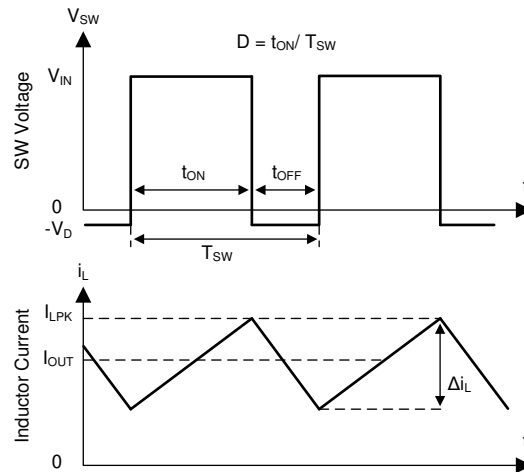

Figure 10. SW Node and Inductor Current Waveforms in Continuous Conduction Mode
The following operation description of the LM76002-Q1/LM76003-Q1 refers to the Functional Block Diagram and to the waveforms in Figure 10. The LM76002-Q1/LM76003-Q1 supplies a regulated output voltage by turning on the internal high side (HS) and low side (LS) NMOS switches with varying duty cycle (D). During high-side switch on-time t_{ON} , the SW pin voltage V_{SW} swings up to approximately V_{IN} , and the inductor current i_L increase with linear slope. The HS switch is off by the control logic. During the HS switch off-time, t_{OFF} , the LS switch is turned on. Inductor current discharges through the LS switch, which forces the V_{SW} to swing below ground by the voltage drop across the LS switch. The regulator loop adjusts the duty cycle to maintain a constant output voltage. The control parameter of buck converter is defined as duty cycle $D = t_{ON} / t_{SW}$. In an ideal buck converter, where losses are ignored, D is proportional to the output voltage and inversely proportional to the input voltage: $D = V_{OUT} / V_{IN}$.
Considering power losses in the system with heavy load operation, V_{IN-MIN} is higher than the result calculated in FIG 10. With frequency foldback, V_{IN-MIN} is lowered by decreased f_{SW} . When the device is operating in auto mode at voltages near maximum rated input voltage and light load conditions, an increased output voltage ripple during load transient may be observed. For this reason TI recommends that device operating point be calculated with sufficient operational margin so that minimum on-time condition is not triggered.